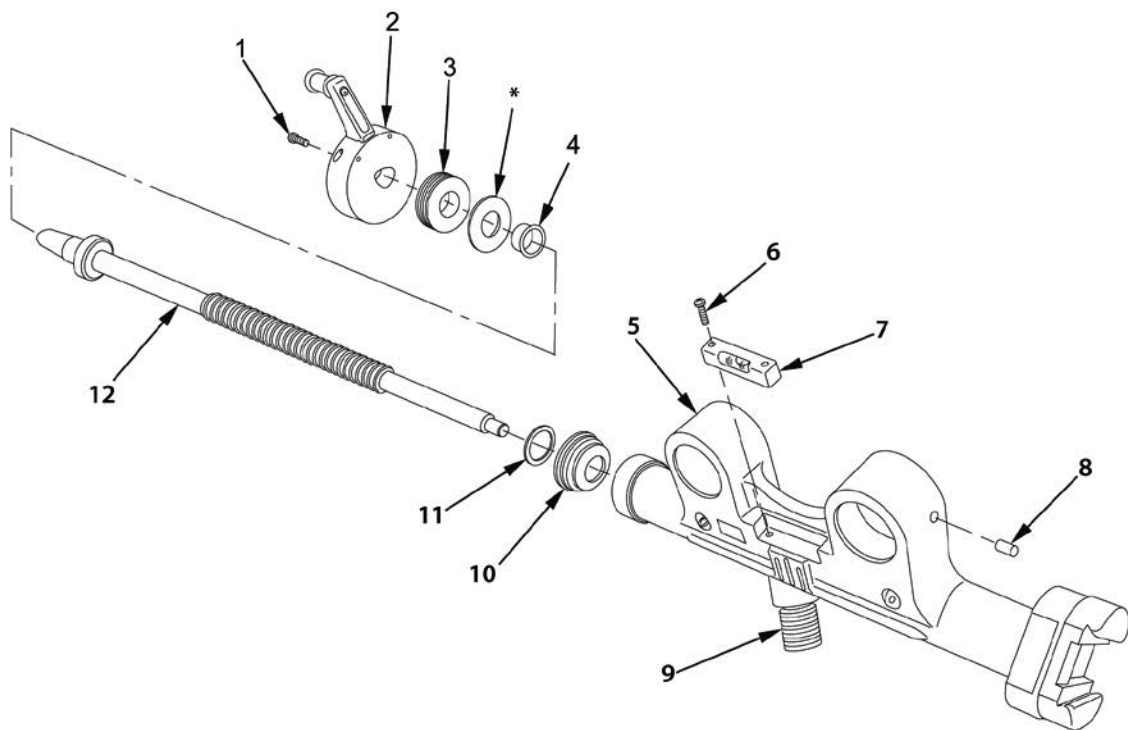

Figure 5. Installation of Shoulder Screw.
8. Install new flat washer (Figure 5, Item 11) and traverse screw retainer (Figure 5, Item 10) to shoulder screw (Figure 5, Item 12). Install shoulder screw into traversing yoke (Figure 5, Item 5) until fully seated.
9. Install new sleeve bearing (Figure 5, Item 4) to mounting plate (Figure 5, Item 3).
10. Apply sealing compound (WP 0032, Item 22) to mounting plate (Figure 5, Item 3). Install mounting plate to traversing yoke (Figure 5, Item 5). Using face wrench socket, torque to 13.0 - 15.0 ft•lb (19 N•m).
11. Install hand crank (Figure 5, Item 2). Check for backlash. If backlash exceeds 1/8 of turn, install shim(s) between mounting plate (Figure 5, Item 3) and shoulder screw (Figure 5, Item 12) until desired backlash is achieved.
12. Apply sealing compound (WP 0032, Item 23) to threads of socket head capscrew (Figure 5, Item 1).
13. Secure hand crank (Figure 5, Item 2) with socket head capscrew (Figure 5, Item 1). Tighten until seated.
14. If level (Figure 5, Item 7) was removed, apply sealing compound (WP 0032, Item 23) to threads of two socket head capscrews (Figure 5, Item 6).
15. Align level (Figure 5, Item 7) on traversing yoke (Figure 5, Item 5) and install two socket head capscrews (Figure 5, Item 6). Tighten until seated.
16. If removed, install two new headless straight pins (Figure 5, Item 8) to traversing yoke (Figure 5, Item 5). Adjust to approximate depth of 1/8 in. (0.32 cm). Check for binding against recoil assembly. Loosen headless straight pins if binding occurs.